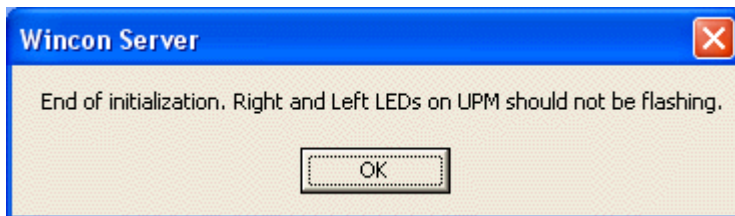

Figure 4 Message prompt after running *q_boot_upm_ZZ*
8. The *Left* and *Right* LEDs should stop flashing and the window shown in Figure 4 should be prompted. This implies the UPM amplifier is *ready* to be enabled.